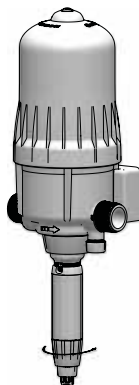

Fig. 14
- Retighten the dosing locking nut (**Fig. 14**).